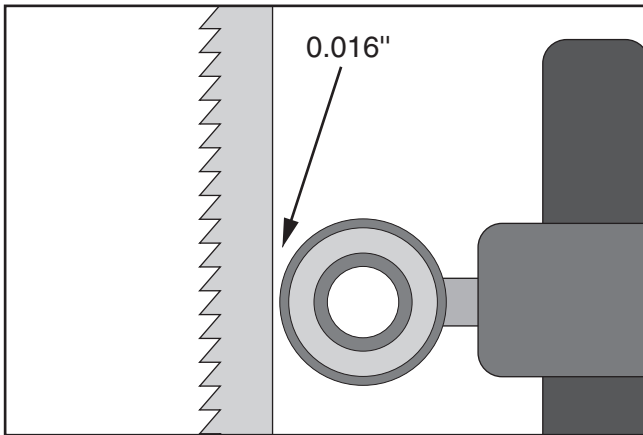

Figure 24. Bearing positioned 0.016" away from back of blade.
- Position support bearing approximately 0.016" away from the back of the blade, as illustrated in **Figure 24**. This can be measured with a feeler gauge.